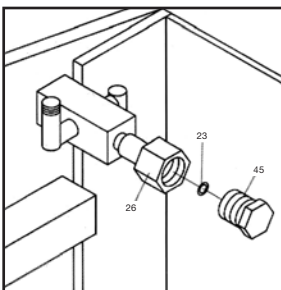

Figure 2
- Remove Gauge Plug (45), insert Nylon Ring (23) into Gauge Fitting (26) and thread in Pressure Gauge (31) until tight. Ensure entire assembly is tight or it may leak. (figure 2, 3)